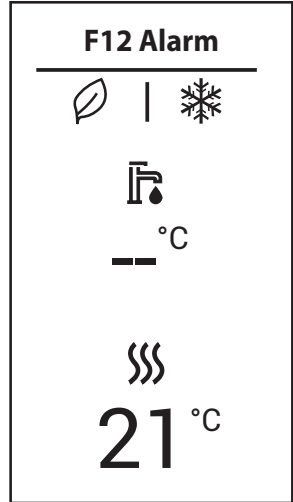

fig. 6
**Message-type fault (fig. 6):** The fault does not compromise boiler operation. The message disappears when the problem is eliminated.